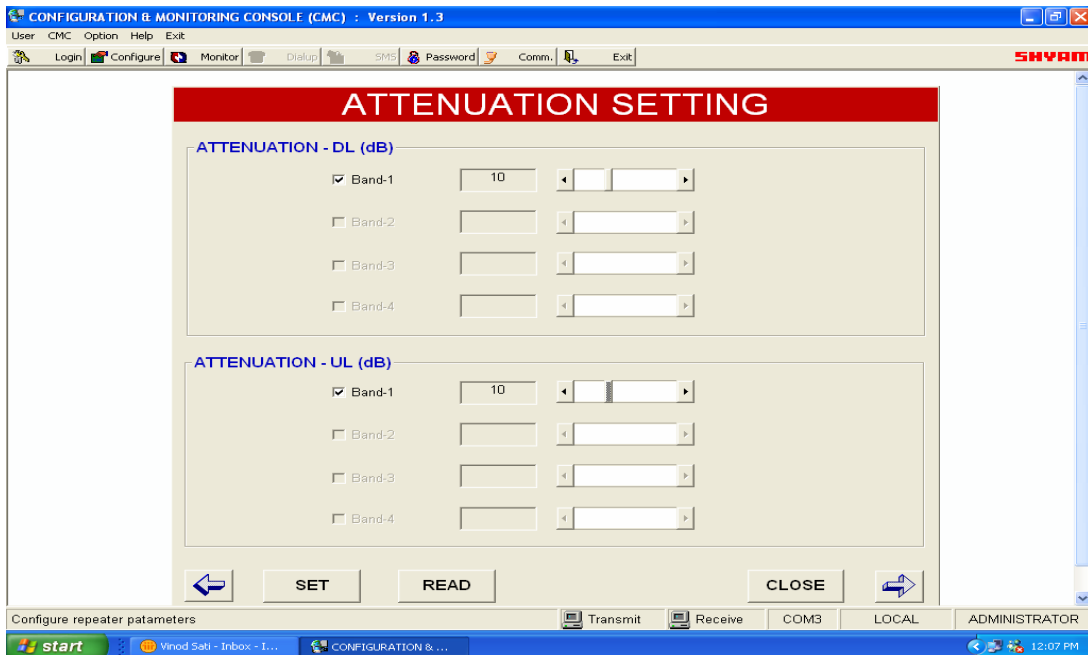

Figure 9: Attenuation Settings (DL path only)
g) Attenuation Settings (Figure 9)